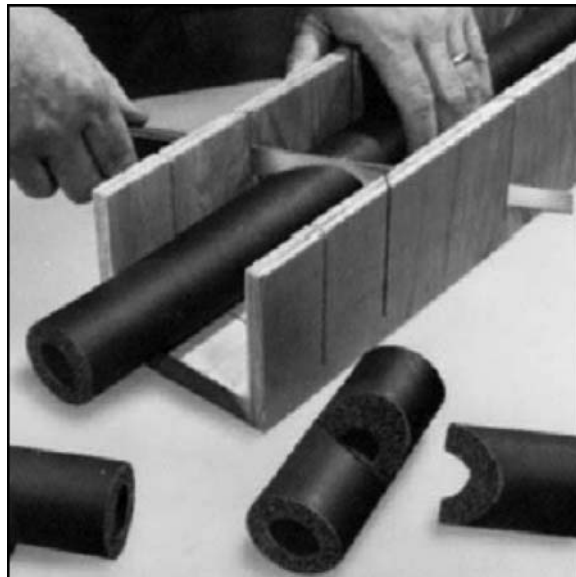

FIG. 1 USE Miter Box For Making Cuts
8.4 Use miter boxes or templates for making accurate cuts. See Fig. 1. Keep to correct dimensions. Do not cut the insulation short and stretch it to fit the space.